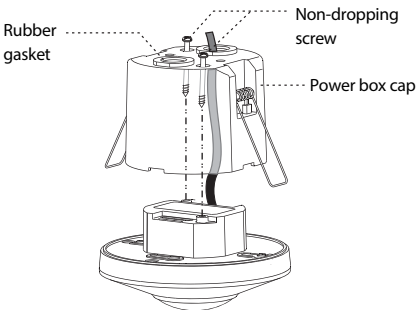

FIG.10
- 4.2.2.2. Use a screwdriver to break the rubber gasket on power box cap, then feed cables through it (See FIG. 10).